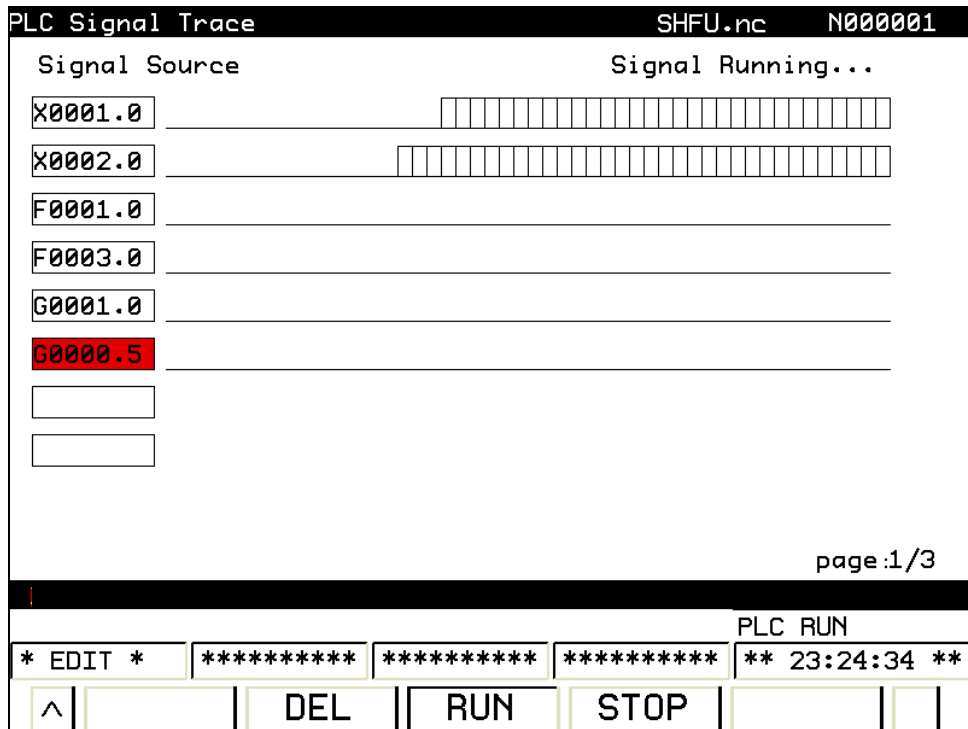

Fig. 3-45
Several corresponding interfaces are available: [F resource], [G resource], [X resource], [Y resource] and [TRACE], refer to the matched manual of the 3^d fascicule of **GSK25i CNC system: PLC and installation connection** for the significance of each diagnosis number and setting method. A signal trace is shown on figure 3-45.
- C. Press the softkey [Operation], when this signal is performed, the figure 3-45 frame may occur. If no signal is transmitted, a straight line is displayed in this case.